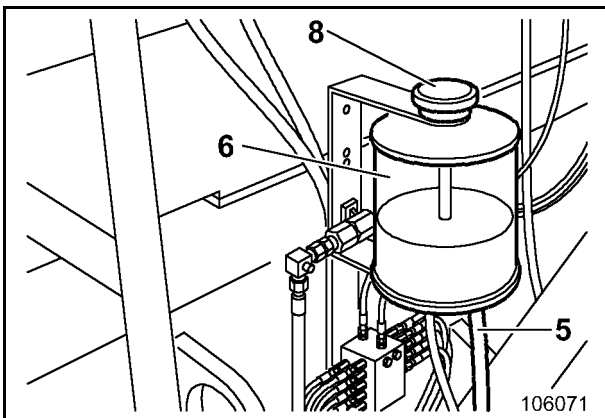
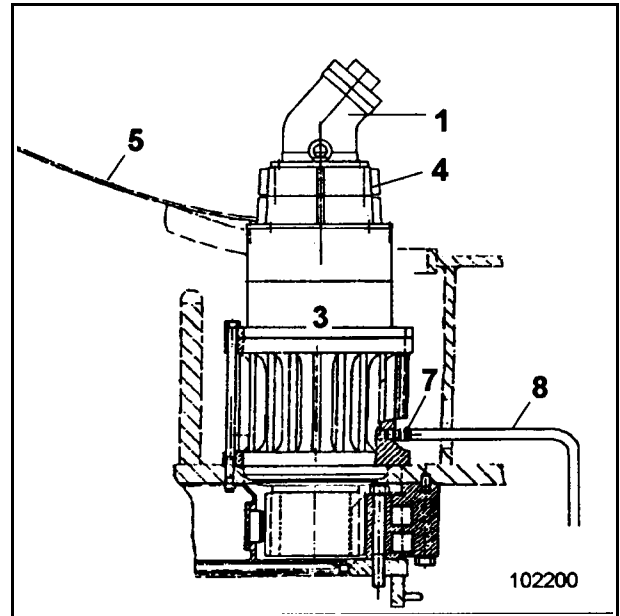

Fig. 3-79:
Fig. 3-80:
- Check the oil level visually at expansion tanks (6, Fig. 3-79:).
Hose (5, Fig. 3-79:and Fig. 3-80:) connects the gearbox (3, Fig. 3-80:) with the expansion tank (6, Fig. 3-79:).
- Attach hose (8, Fig. 3-80:) to drain valve (7) and drain off oil completely.
Unscrewing cover (8, Fig. 3-79:) facilitates draining off the used oil.
The drain valve (7, Fig. 3-80:) is accessible from the undercarriage.